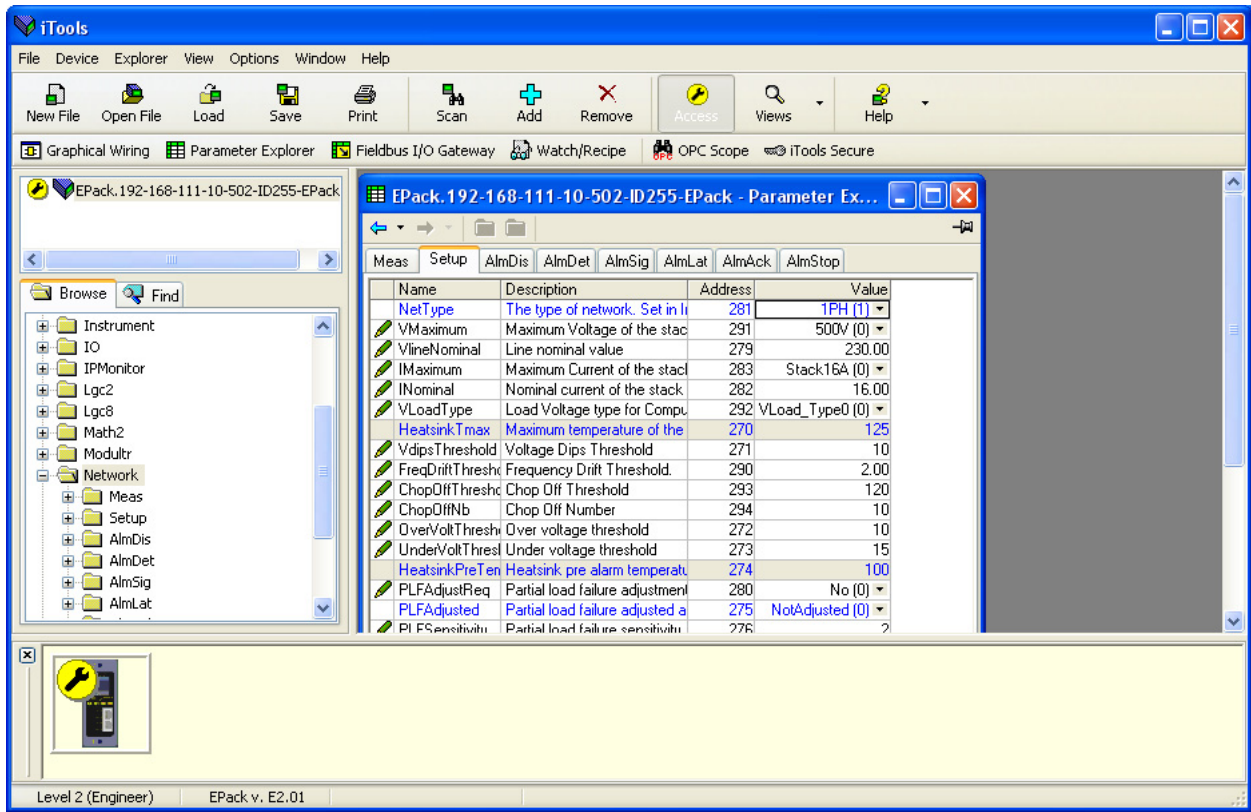

Figure 7.4a Parameter table example
In each case the function block parameters appear in the iTools window in tabular form, such as the example in figure 7.4a, below.
- Parameters in blue are non-editable (Read only). In the example above all the parameters are read only. Read/write parameters are in black and have a 'pencil' symbol in the 'read/Write access column at the left edge of the table. A number of such items are shown in figure 7.4a, above.
- Columns. The default explorer window (figure 7.4a) contains the columns 'Name', 'Description', 'Address' and 'Value'. As can be seen from figure 7.4b, above, the columns to be displayed can be selected, to a certain extent, using either the 'Explorer' menu or the context menu. 'Limits' have been enabled for the example above.